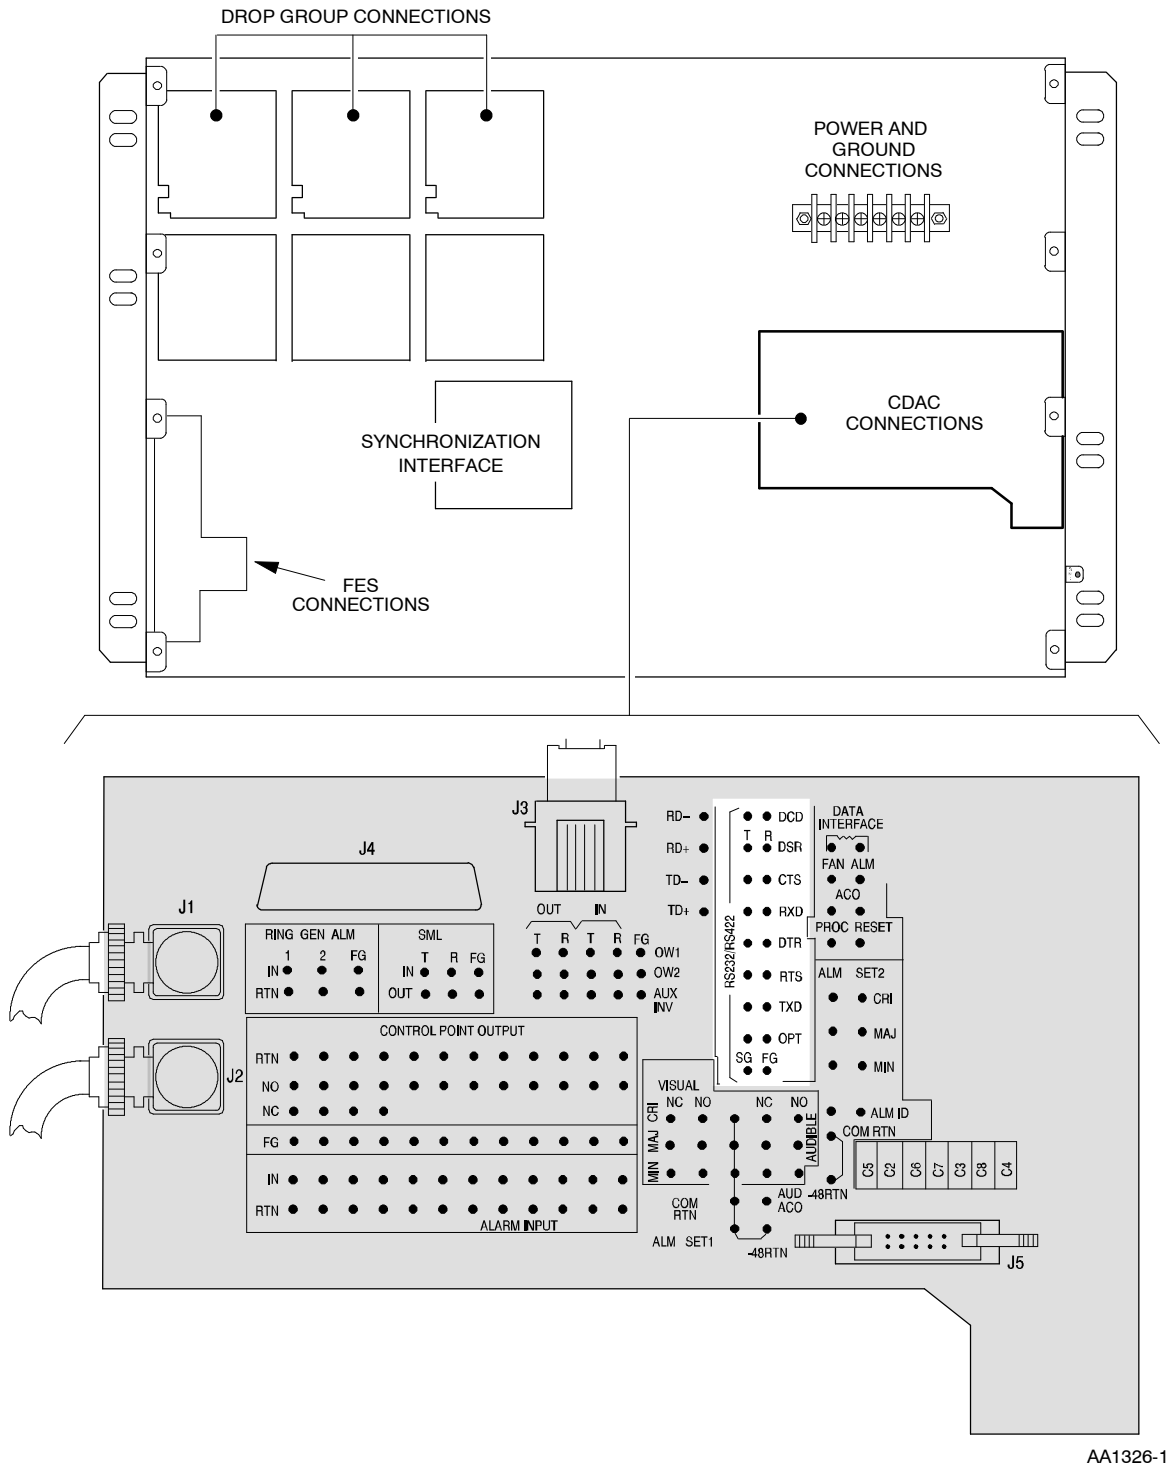

Figure 2. 1603 SMX Rear View
- 39** Verify wiring from DTE device to Craft 2 port per DLP-553 and Figure 2; then go to step 43.
- 40** Verify wiring from modem to Craft 2 port per DLP-553 and Figure 2.